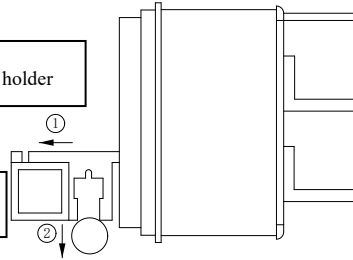

Figure 8-2
- (2) As shown in Figure 8-2, remove the fuse in the direction of arrow ②.